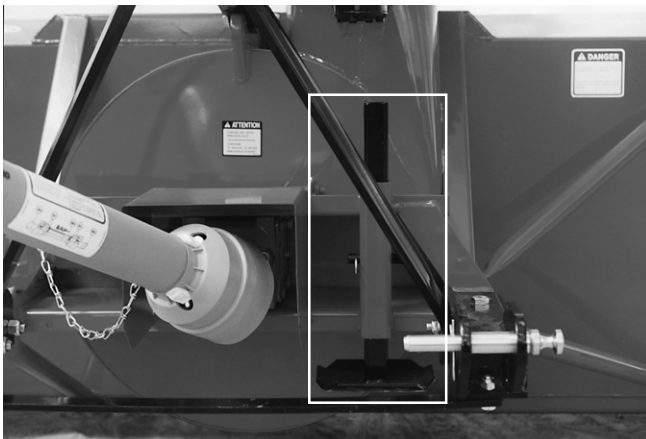

Figure 26
- 6) Following the installation of the Snowblower on the tractor, **do not forget** to lift the storage support (Fig. 26).